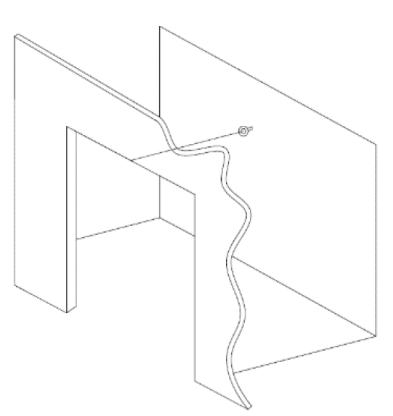

Fig.5
1. Centrally and in-line with the top of the fireplace opening, drill and plug a hole and fit the eyelet (supplied) in the rear wall of the chamber. Ensure the fittings you use are suitable for the structure into which you are fitting the eyelet. (Fig. 5)